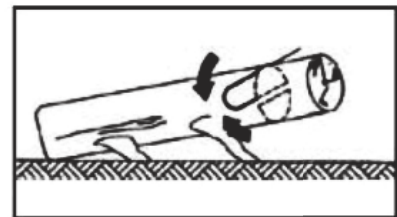

Fig.4B
2. Log supported on 1 end: First, cut from bottom (under buck) 1/3 diameter of log to avoid splintering. Second, cut from above (over buck) to meet first cut and avoid pinching (Fig. 4B).